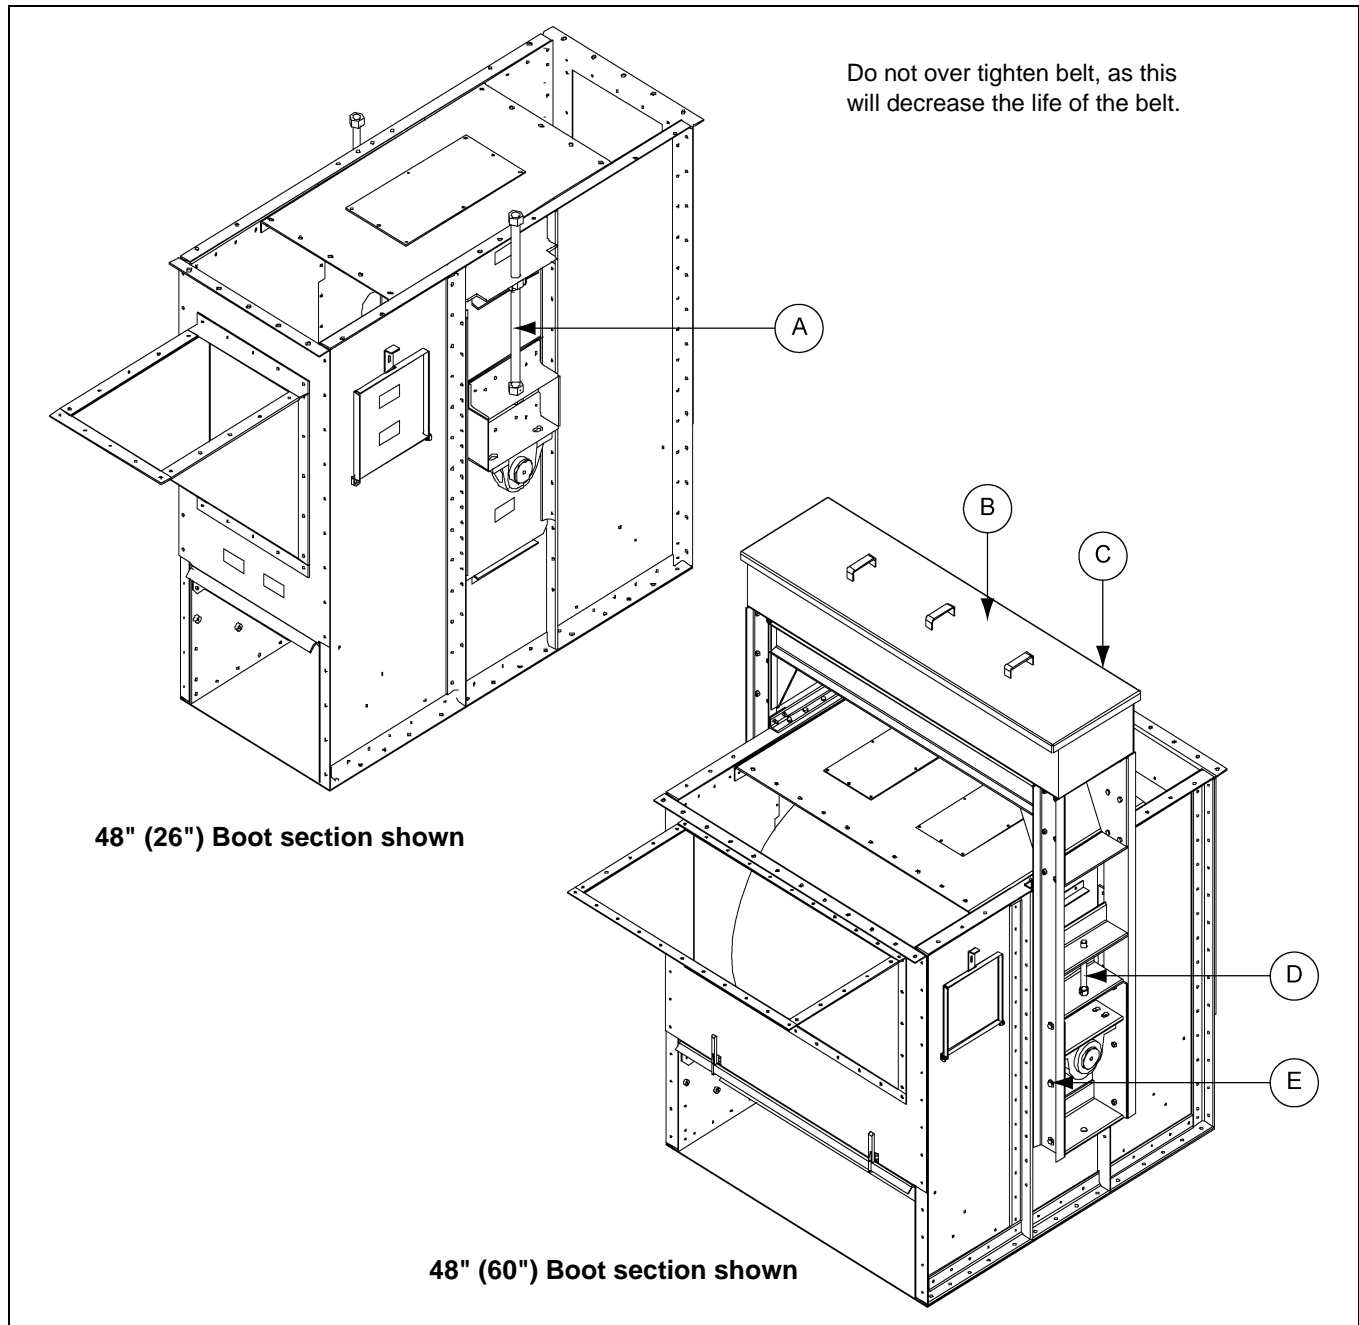

Figure 10B *Take-Ups*
5. After adjustments have been made, re-tighten bolts and snug the bearing plate adjustment screw lock nuts. *(See Figure 10B on Page 33.)*